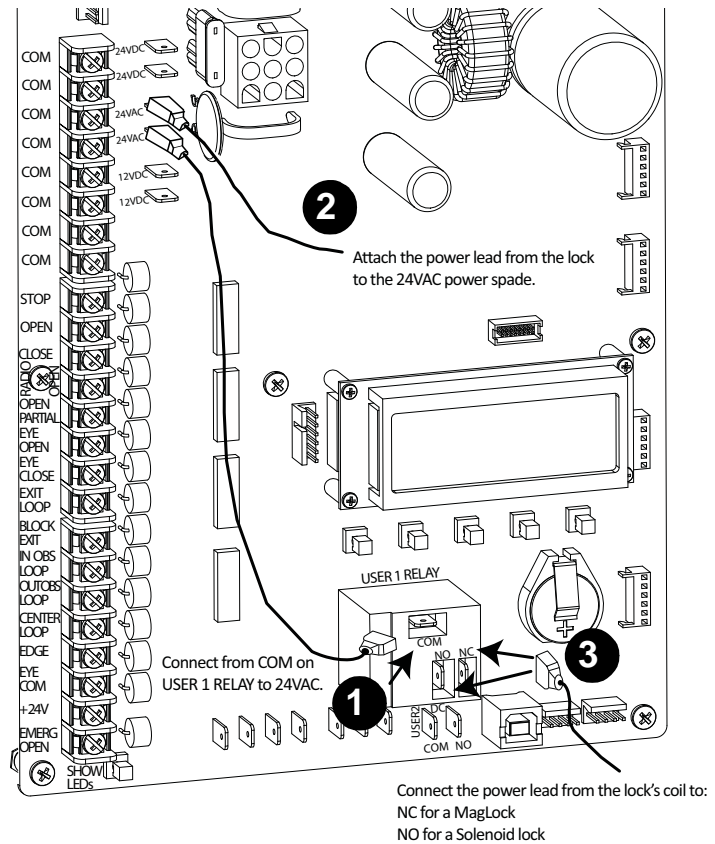

Figure 6-3.
1. Connect a wire from COM on USER 1 RELAY and one 24VAC power spade. See Figure 6-3.